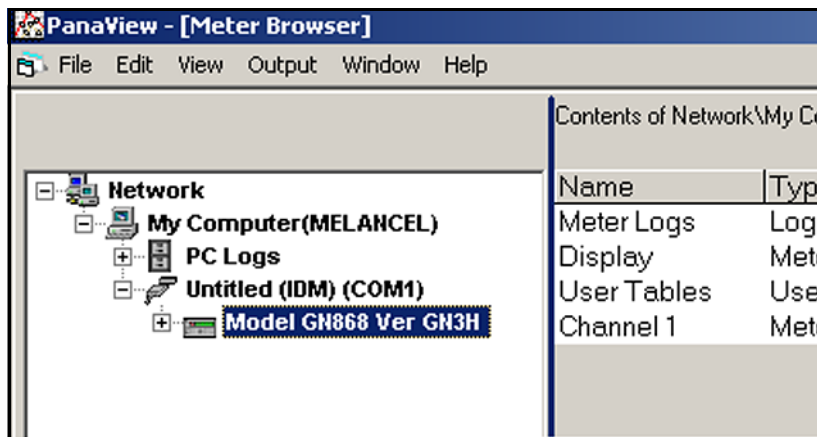

Figure 22: Updated Network Tree
If the initialization is successful, the *Meter Browser* shows a listing similar to *Figure 22* below.
1. Highlight the meter (as shown in *Figure 22* on page 105).